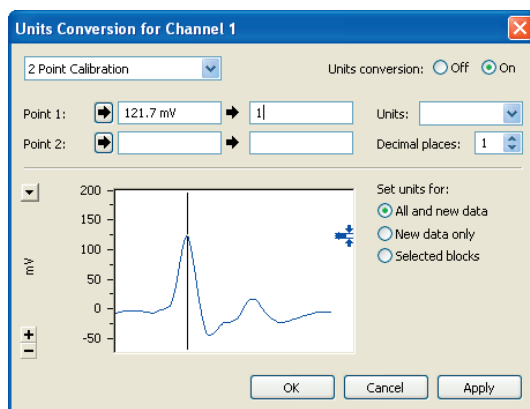

Figure 23b. Maximum value selected in the Units Conversion dialog box.
5. Enter 1 in the right hand column (Figure 23b)